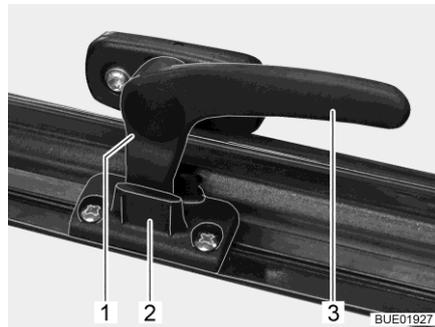

Fig. 23 Catch lever ("continuous ventilation" position)
- "Continuous ventilation" (Fig. 23)
- Turn the catch lever (Fig. 23,3) a quarter turn towards the centre of the window.
- Turn the catch lever a quarter turn towards the window frame. The locking catch (Fig. 23,1) has to be moved into the recess of window catch (Fig. 23,2).